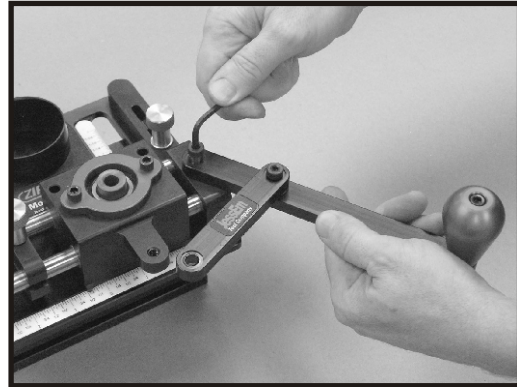

FIG. 1
1. The lever system is partially pre-assembled from the box and needs to be attached to the Zip Slot Mortise Mill. Using one of the 5/16" shoulder bolts and a 5/32" hex key from the parts bag, first attach the long arm of the lever assembly to the tapped hole in the shaft mounting block (Fig. 1).